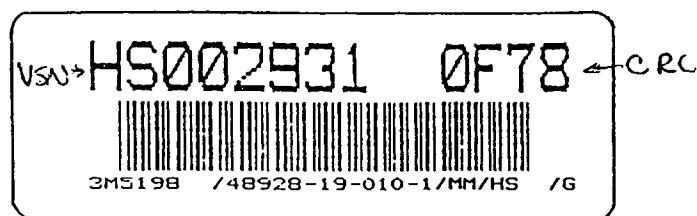

Figure 5 VSN Label Example
4. Continue the prepass in the reverse direction. Normally, the Volume Serial Number (VSN) and Cyclical Redundancy Check (CRC) numbers are entered automatically by the barcode reader. Enter VSN and CRC at the prompt if the barcode reader is not working. Figure 5 shows where to find VSN and CRC on the reel.